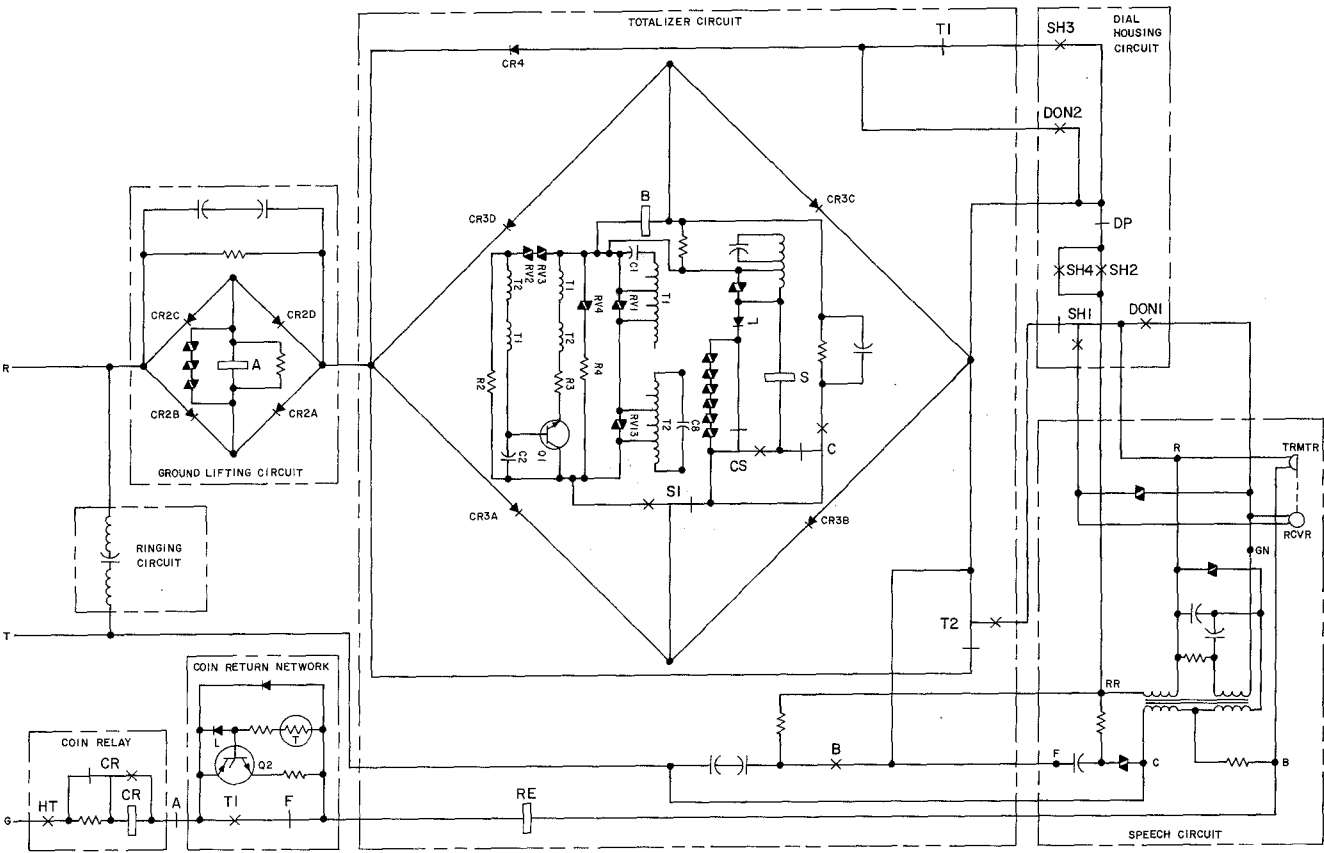

Fig. 9—IC1/2C1 Coin Telephone Set—Schematic (DTF Mode)
#### Other Component Circuits (Fig. 9 through 12)
#### 2.21 Ground Lifting Circuit (Used in DTF only) (Fig. 9 and 10).
#### 2.22 Coin Return Network (Used in DTF only) (Fig. 9 and 10).
**DIAL-TONE-FIRST SERVICE (Fig. 9 and 10)**